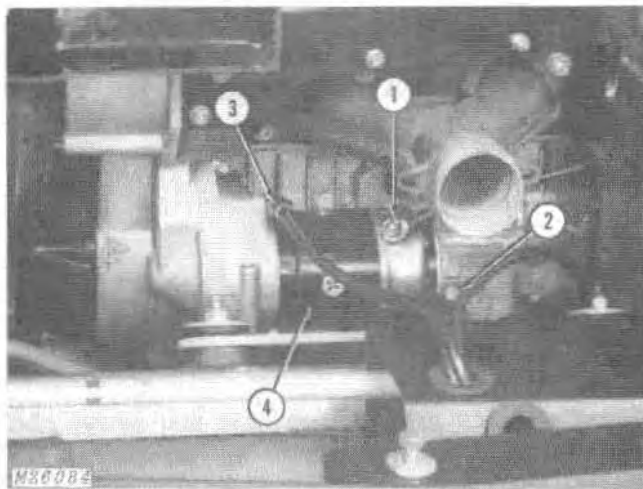

Fig. 7-Removing Starter Motor
1. Disconnect starter motor cable, Fig. 7.